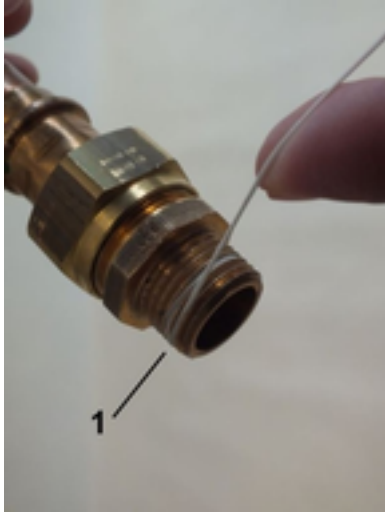

Fig. 11: Apply sealing thread
4. ➡ Apply sealing thread (*Fig. 11/1*) to the napped area in the threaded direction. Observe the quantity recommended by the sealant manufacturer.